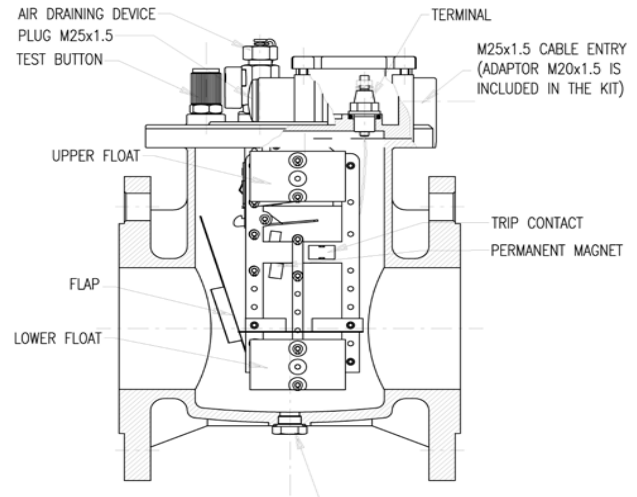

Figure 12: Buchholz relay
- It is a universal practice to use Buchholz relays on all oil immersed transformers having ratings in excess of 750 kVA. The Buchholz relay is a protective relay for equipment immersed in oil for insulating and cooling purpose, Figure 12 and Table ξ.